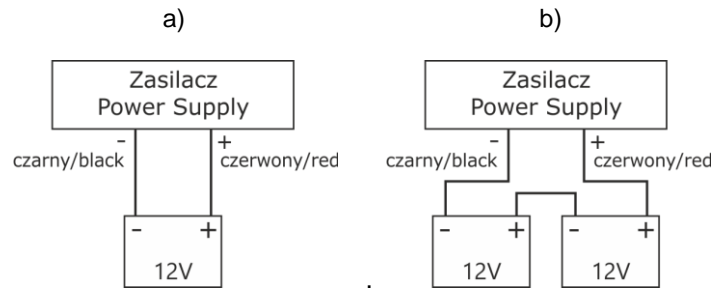

Fig. 4 Connecting batteries depending on voltage version of power supply:
5. Install battery/batteries in a designated area of enclosure. Connect batteries with PSU paying special attention to correct polarity and type of connections (Fig. 4):